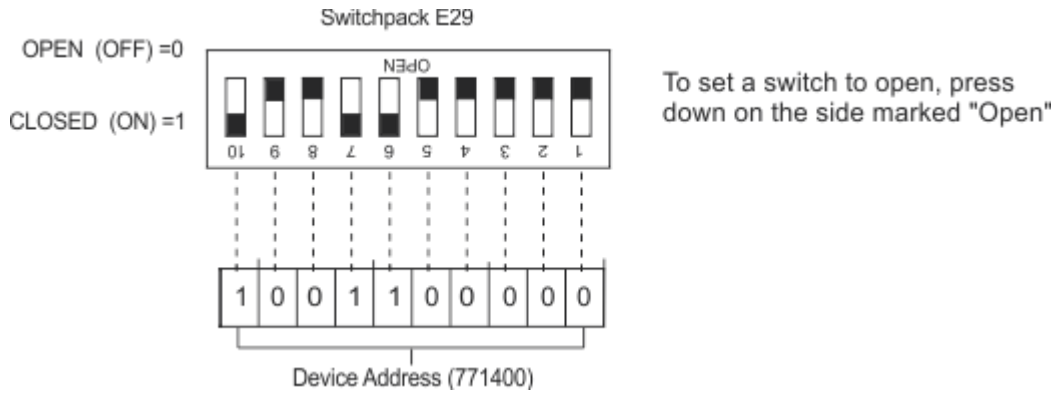

Figure 1-2: Device Address Switch Setting
- Figure 1-2: Device Address Switch Setting 5
Switchpack E29 is used to establish a base device register address. Figure 1-2 shows the switch setting for the factory setting.